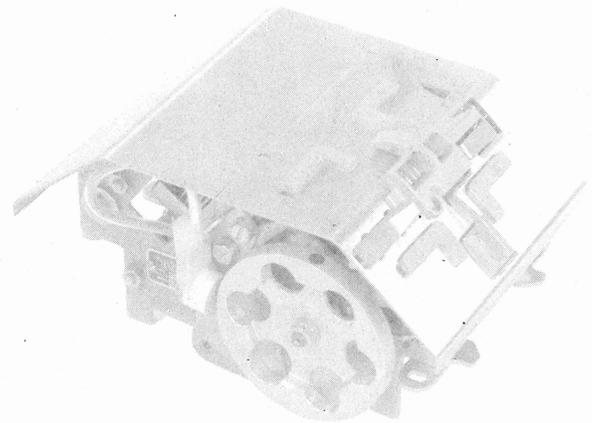

Figure 1 - CX Tape Reader (Typical)
1.04 References made to left or right, front or rear, top or bottom, etc refer to the reader as viewed with the flywheel in the front (Figure 1).